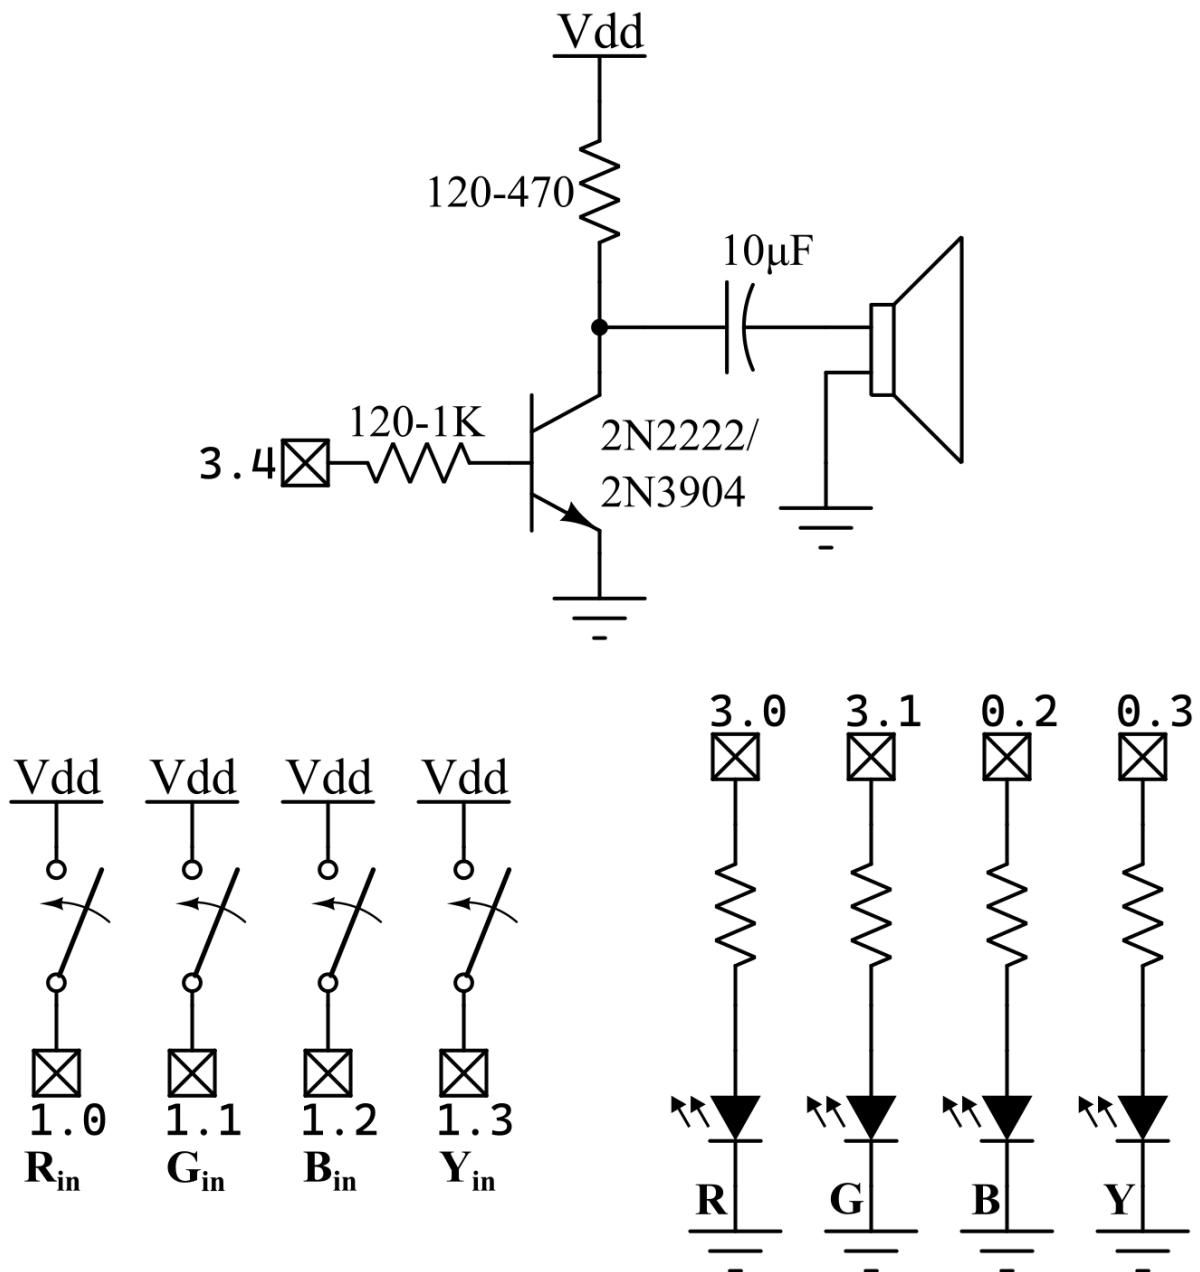

Figure 2: Lab03 Schematic
- Build the circuit shown in Figure 2. You may use the speaker included in your kit or the one on the Digi-Designer at your lab station. (NOTE: The resistor values don't necessarily have to match, smaller resistors mean more current, which means louder sound!)